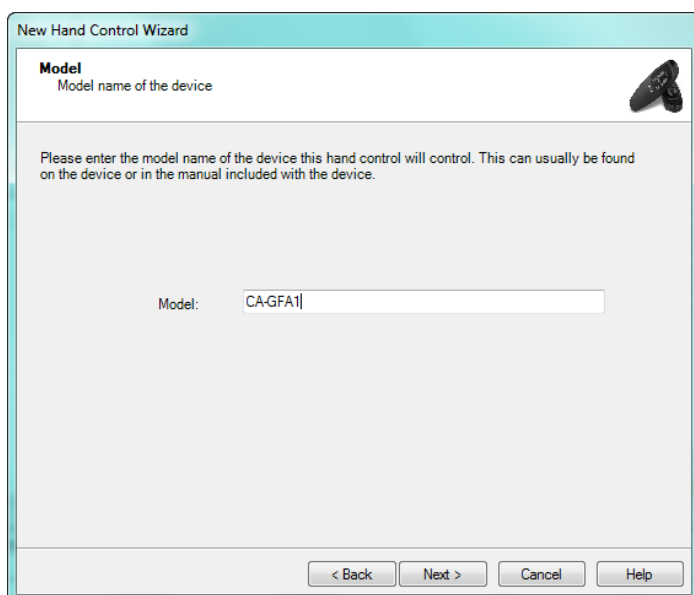

FIG. 16 New Hand Control Wizard - Model dialog
4. Click **Next** to proceed to the *Model* dialog (FIG. 16):